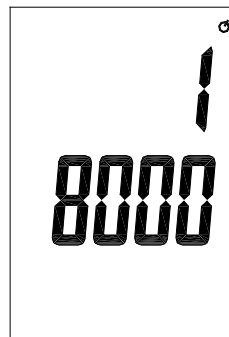

Fig. 7
1. Press **Power on/off** button to turn the unit on. The first value immediately shown is the number of data logging sample points remaining. (Fig. 7)
4. **Note:** A maximum of 18,000 sample points is available (Fig. 7). As you log temperature readings, this value will be lower each time you turn the meter. When the memory is full (with 0 sample points remaining), the first value shown will be "FULL" rather than a number. Or if you try to record, the **REC** icon will flash five times and disappear. At this point, you are no longer able to record until the memory is cleared. (See "Changing Setup Options", "Clear Memory Operation")